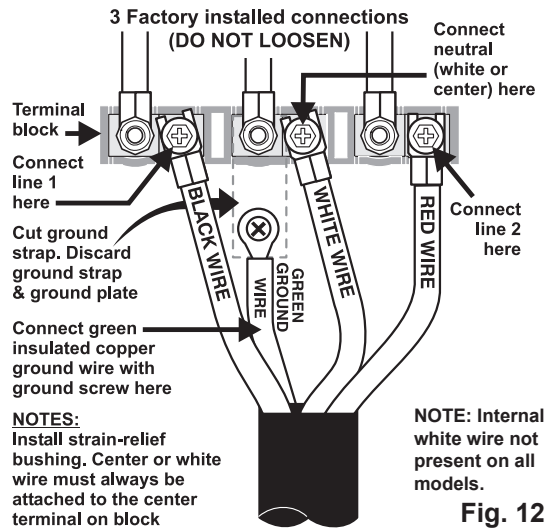

Fig. 12
## 5A. POWER CORD CONNECTIONS (4-Wire Connection Instructions - Refer to Fig.12)
4. Connect the ground wire (Green) lead with the eyelet to the frame of the appliance with the ground screw using the same hole in the frame where the ground screw was originally installed (See Fig. 12).